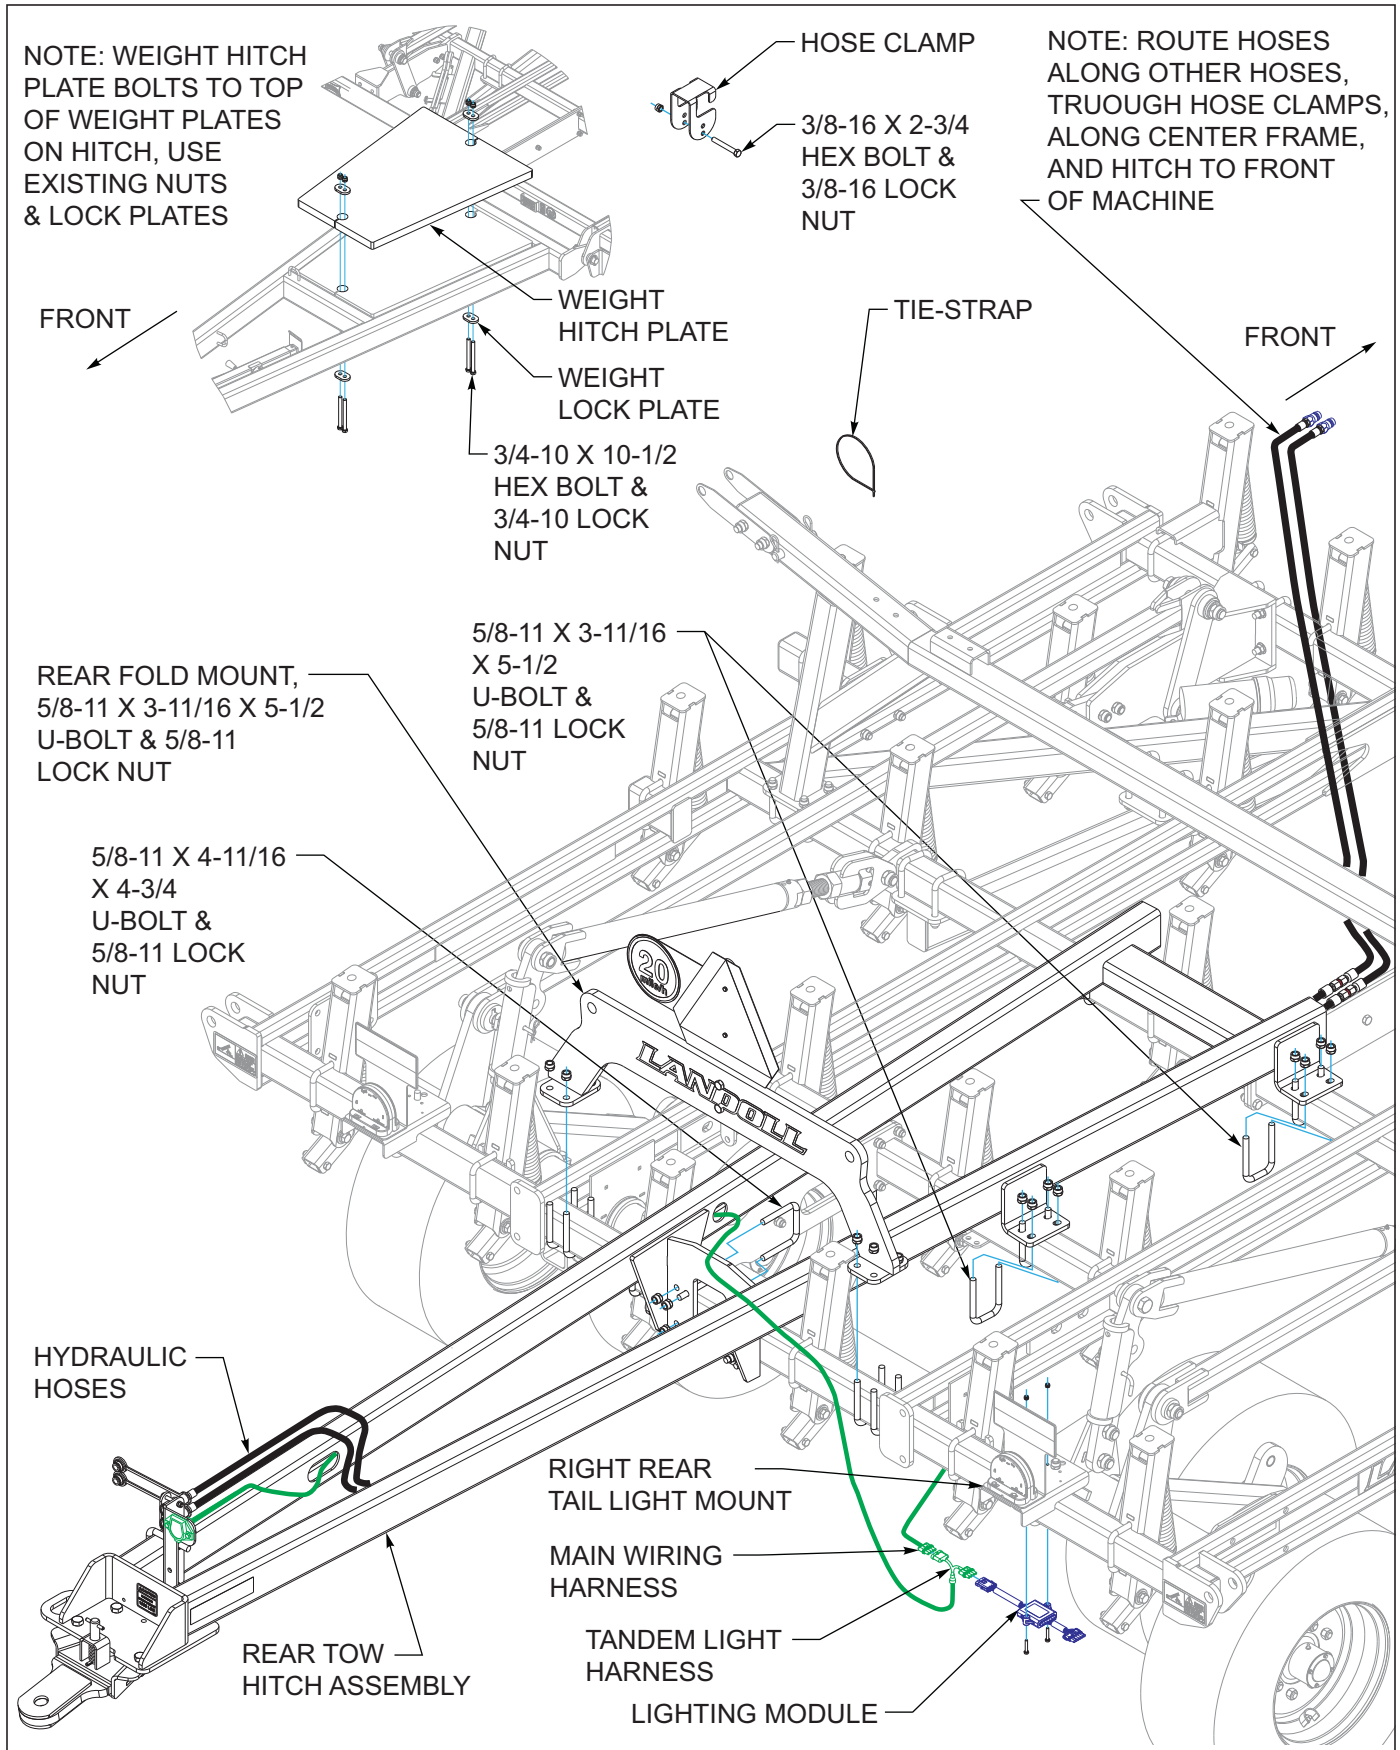

**Figure 3-23: 3 Row Spike Harrow and Reel Installation**
1. Attach the 3 RSD w/spring and 3 RSD w/o spring arm assemblies to the rear tube of the center and wing frames using harrow mounting plates, 3/4 x 5-1/2 bolts, clamp bushings and 3/4 lock hex nut See Figure 3-23.
3. Refer to Note: spike bar alignment See Figure 3-23 for proper alignment of spike bar assemblies. Be sure they are aligned properly on both right and left side of each section.